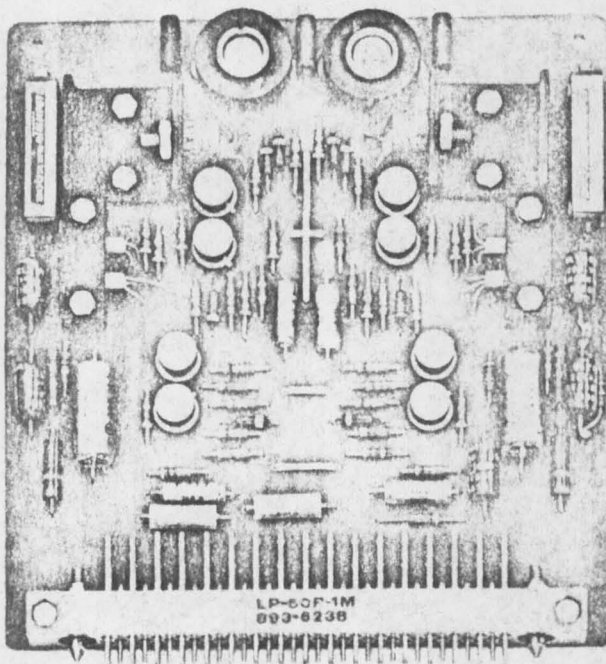

Figure 1. Reference Power Supply Model 600085
2. Description - The Model 600085 Reference Power Supply (see figure 1) is a printed circuit board module consisting of two essentially identical regulated power supply circuits. One circuit provides a -10 V regulated output, and the second provides a +10 V regulated output. The circuit board is a standard 50-pin module card with components mounted on one side. The board assembly measures 5 x 5.4 inches and requires one standard card space. Test points are provided on the top edge of the card for checking regulated voltages and trouble shooting during operation.